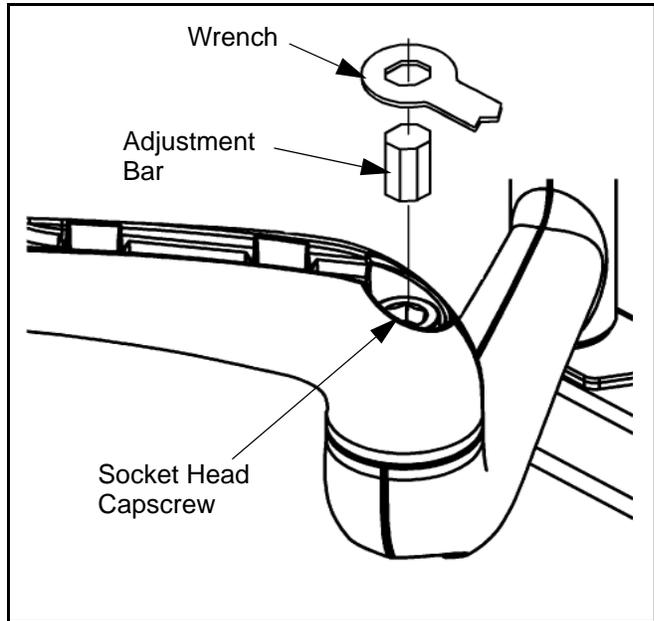

Figure 19: Pivot Arm Tension Adjustment Location
2. Place adjustment bar into socket head cap screw located at swing arm pivot point. (see figure 19)